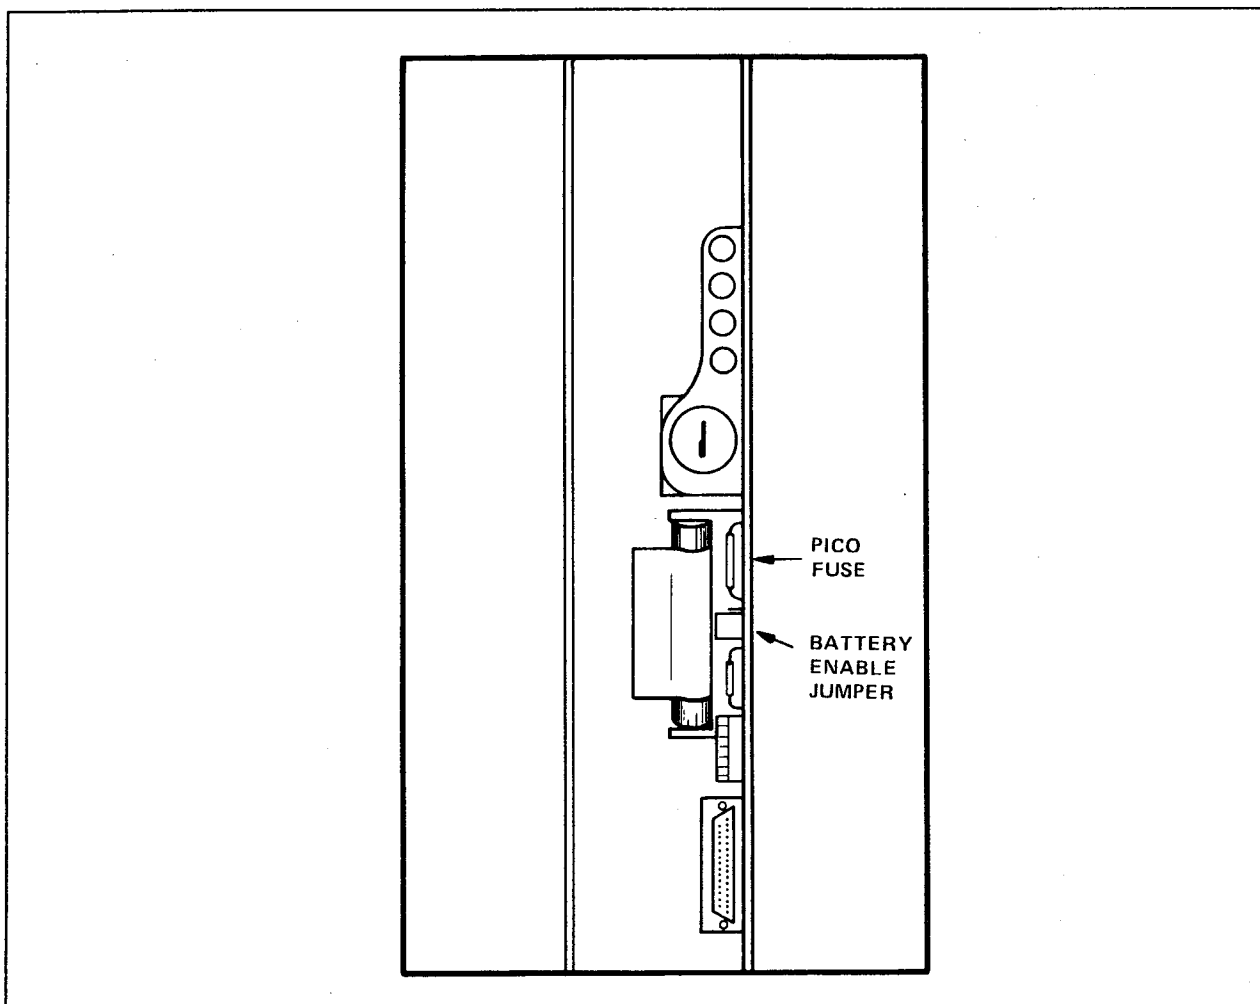

Figure 6-4. Replacing Backup Battery (PC-1200)
1. Remove the PC-1200 controller's front panel. The backup battery is located as shown in Figure 6-4.
In the PC-1200, the lithium battery is protected by a replaceable PICO fuse (rated at 0.125 A), as shown in Figure 6-4. Under normal conditions, this fuse will never need to be replaced.